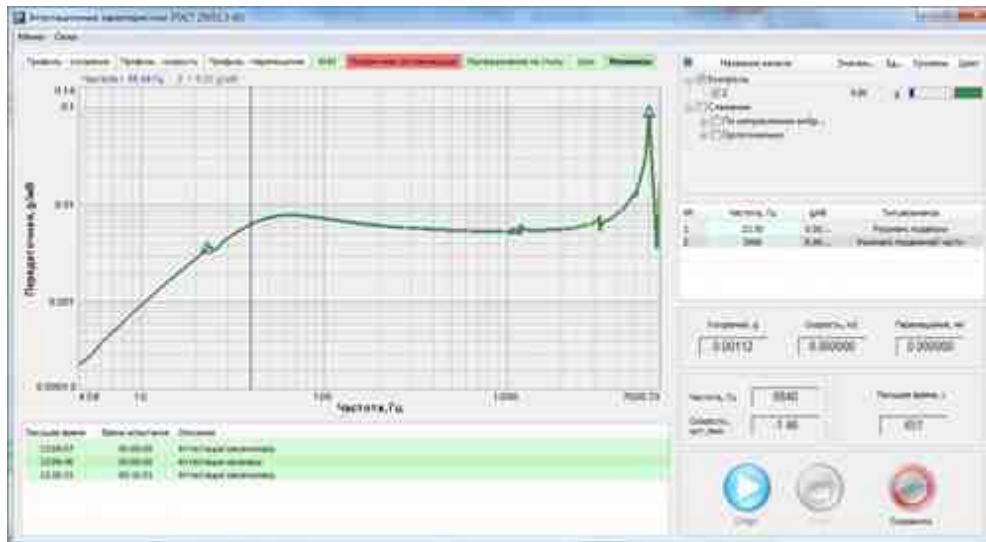

Fig. 6.11 Shaker Validation program, Resonances tab
- At the end of the sine signal oscillation within the rated frequency range, determine the resonance frequency of the suspension member and the first resonance frequency of the movable system on the Resonances tab (Fig. 6.11).